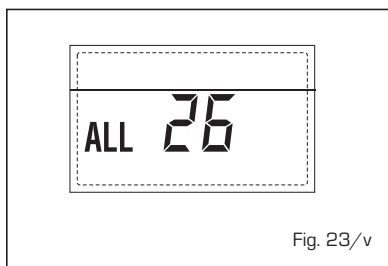

Fig. 23/v
- **SOLAR APPLICATION COHERENCE ANOMALY "ALL 27"** (fig. 23/w)